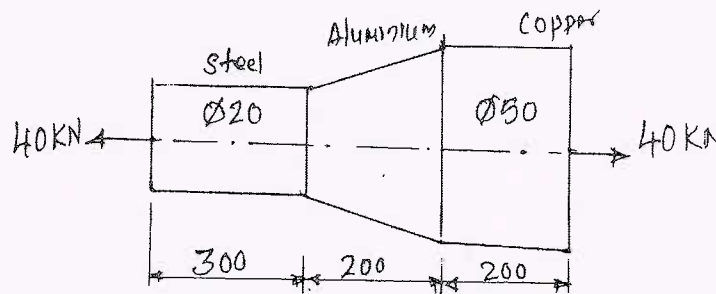

Fig.Q.1(b)
- b. A stepped bar is subjected to an axial load is shown in Fig.Q.1(b). Determine the change in length of the bar. Take $E = 200\text{GPa}$ for steel, $E = 70\text{GPa}$ for Aluminium and $E = 100\text{GPa}$ for copper. All dimensions are in mm. (08 Marks)